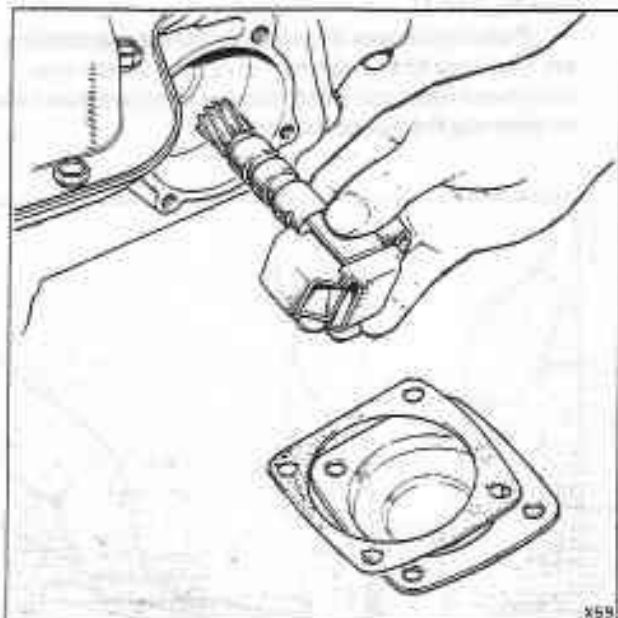

Fig. T10-1 Removing the governor assembly
The governor assembly (see fig. T10-1) fits into the rear of the transmission casing on the right-hand side. The car speed signal for the gear changes is supplied by the governor, which is driven by a gear on the transmission output shaft.
3. Withdraw the governor assembly from the case (see fig. T10-1).